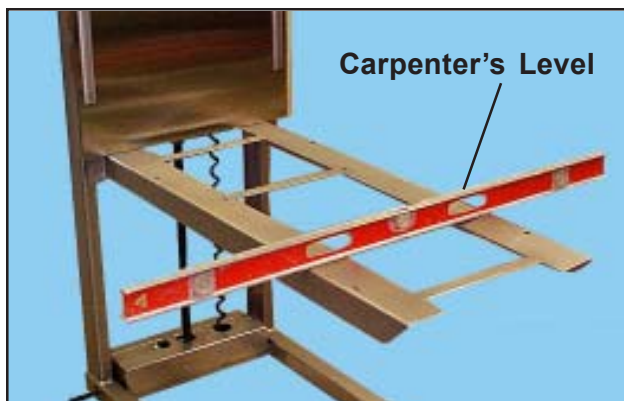

Figure 8. Carpenter's Level Across Table Arms
2. Place a carpenter's level *across* the table arms (Figure 8).
10. Place a carpenter's level *across* the table arms (Figure 8).